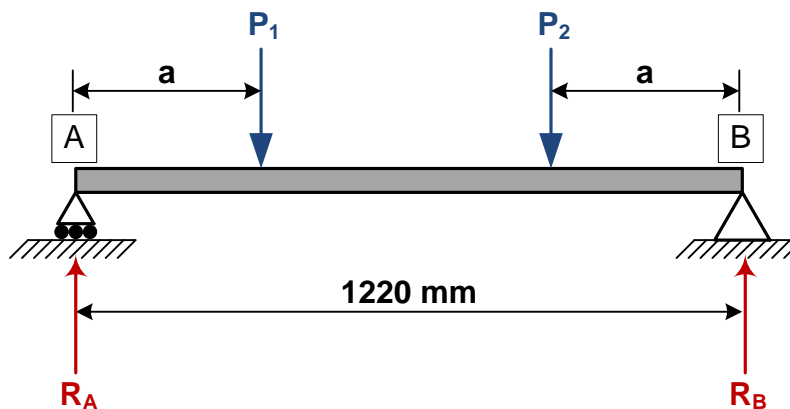

Figure 4: Load condition case 2
3. Repeat the measurements with two simultaneous loads $P_1 = 2.35$ lb and $P_2 = 5.35$ lb at various distances “ a ” from each support **A** and **B** (case 2 in Fig. 4). Record readings in Table 2.
Table 2: Readings from load condition case 2 (Fig. 4)